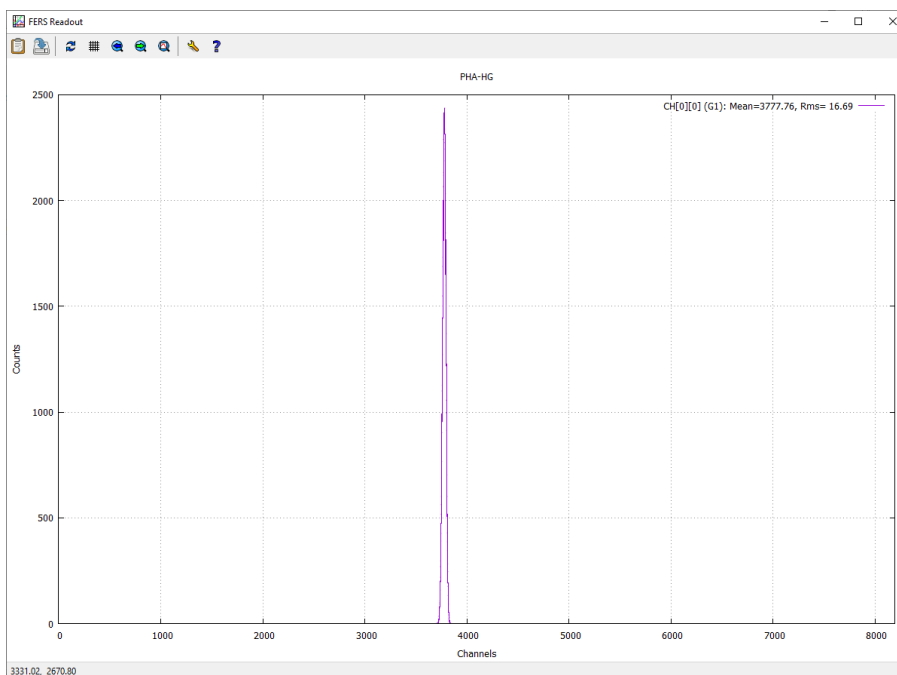

Fig. 10.25: Example of PHA spectrum obtained with the internal test pulser.
- Press the Start button . A plot similar to that in Fig. 10.25 will be visualized for the HG pulse height spectrum.